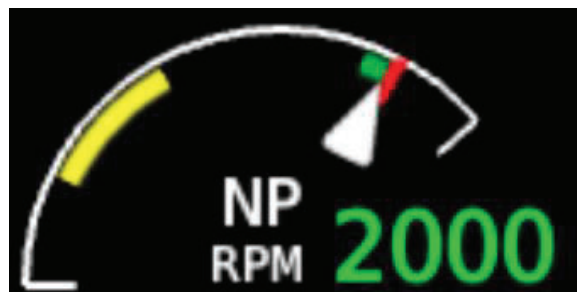

Figure 5: Propeller tachometer after software installation
- (1) Install the 5D3-NK366A1(Y)( )/91D17(B) propeller and 109044(P) spinner in accordance with the current Kodiak 100 series aircraft Airplane Maintenance Manual procedures.
- (2) Update propeller RPM tachometer using Garmin SD card P/N 006-B2633-56 according to Section E: and ensure the following (see Figure 5 for example):
- (3) Adjust main governor according to Section C of this document.
- (4) Adjust overspeed governor according to Section D of this document.
- (5) Attach Hartzell Propeller LLC Airplane Flight Manual Supplement AFMS-030822 to the Pilot's Operating Handbook and FAA Approved Airplane Flight Manual.
- (6) Update AFM equipment list with the appropriate information below: